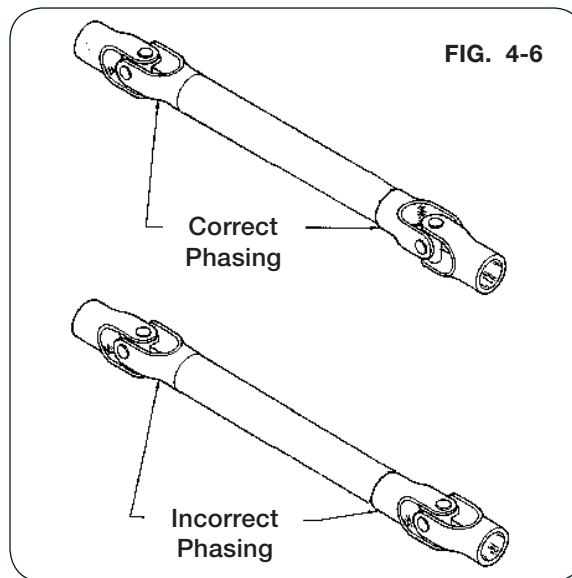

FIG. 4-6
6. Lower the upper auger. Lubricate the pillow block bearing (9004731) (Fig. 4-6). Check and remove any loose parts in the auger tube interior prior to start-up.